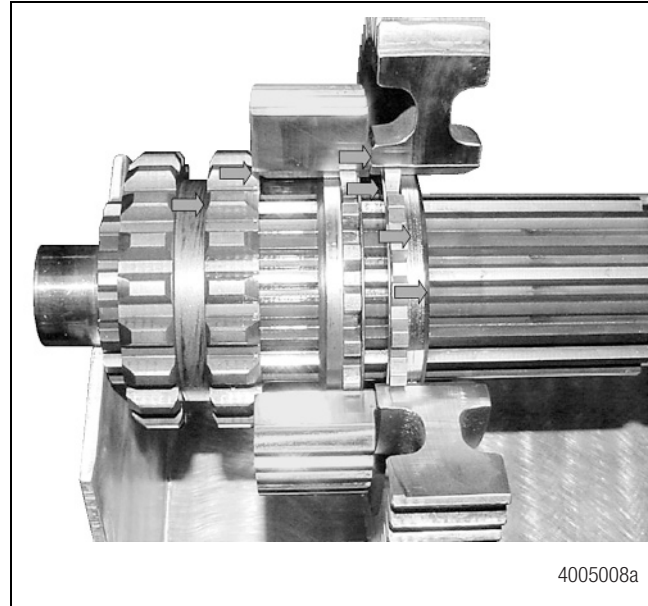

Figure 9.20
**Insufficient lubricant caused high operating temperatures that damaged the washer. The driver operated the vehicle incorrectly. Figure 9.20. Shock load occurred, which damaged the transmission. Figure 9.21.**
Figure 9.20 shows a shift collar that is forced into gear, because the driver didn't use the clutch or synchronize the gear shift. The mating gear snap ring, washer and spacer absorbed the force and caused lubricant between the washer to displace. High operating temperatures occurred that damaged the main shaft washer; and if enough force is applied, the spacer and snap ring could break. Shock load also causes components to crack and separate from each other. Look for a rough, crystalline finish on the separated parts.